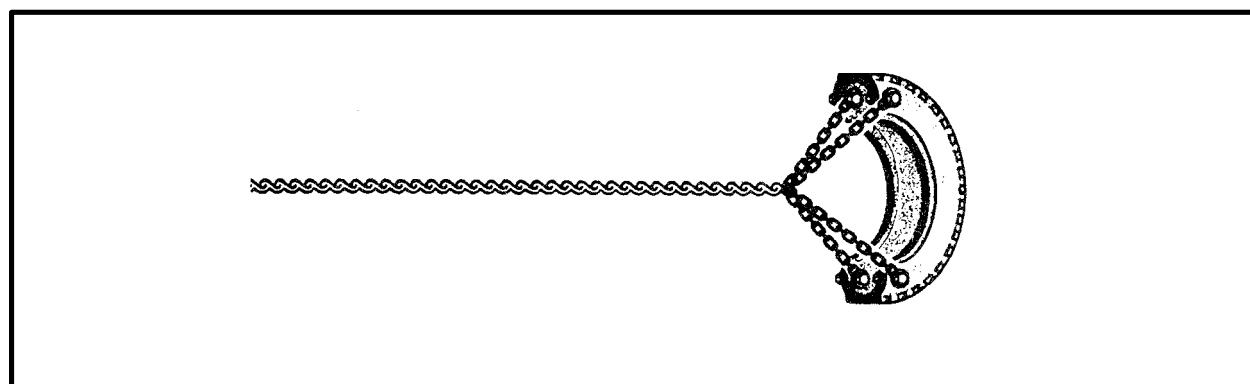

Figure 8-23. Field Expedient Drogue Fabricated from a Tire
**k. Field Expedient Drogue Device.** Adding a field expedient drogue device may increase the stability of low-density loads. Figure 8-23 illustrates a drogue device fabricated from a tire. Cut a tire in half and bolt the ends of a 30-inch length of chain to each side of one end of the tire to form a loop. Bolt the ends of another 30-inch length of chain to each side of the other end of the tire to form a second loop. Attach one end of a 6-foot length of chain or 1/2-inch tubular nylon webbing to the two loops of chain on the tire. Attach the other end of the chain or webbing to one of the bottom corners of the load. Make sure the distance from the tire to the load is less than 5 feet so the tire will not become entangled on the helicopter.